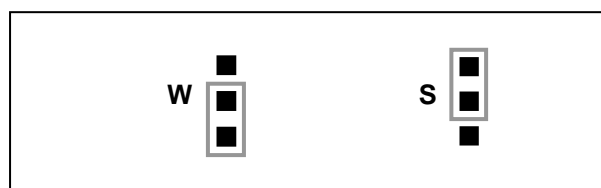

Figure 5
- Move the corresponding jumper from the factory setting (Figure 5, W) to system control (Figure 5, S).